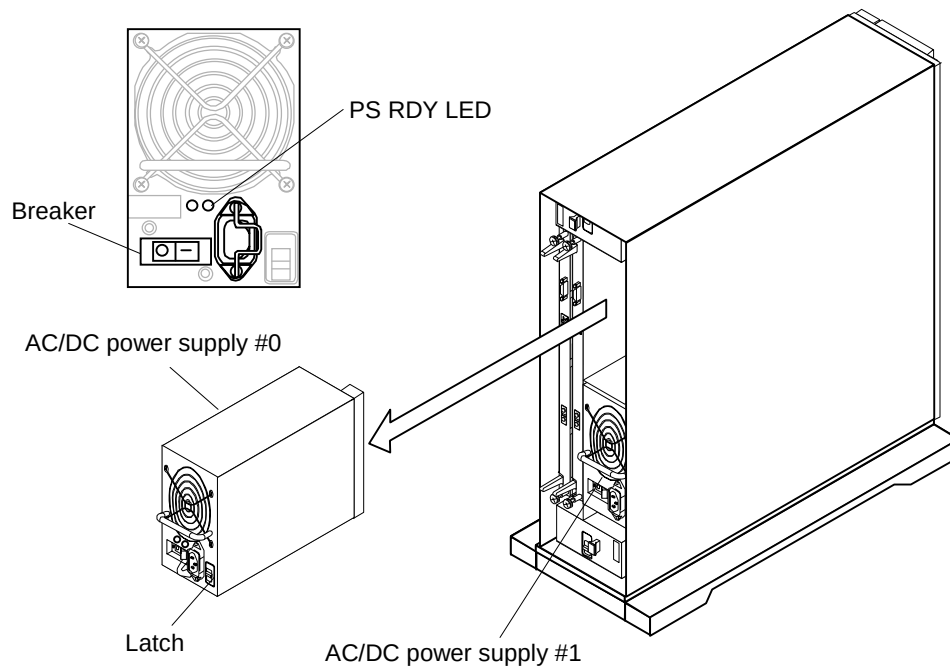

Figure 4.2.11 Replacing AC/DC Power Supply
(1) Procedure for replacement with the power turned on (See Figure 4.2.11)